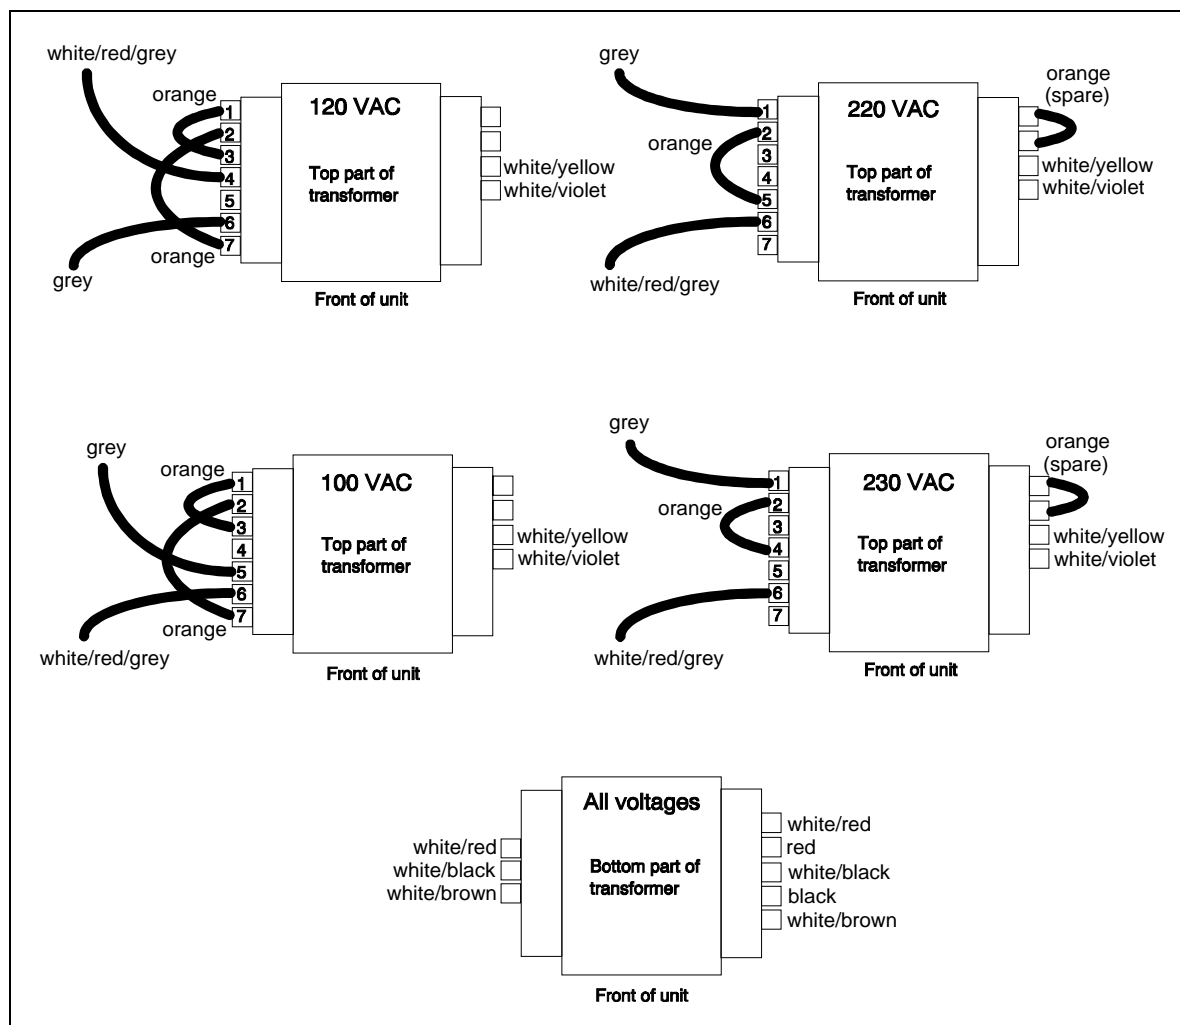

Figure E-1, Power Transformer AC Input Connections
- ◆ Use a needle nose pliers and connect the ac input wiring harness according to the information in figure E-1 on the following page.